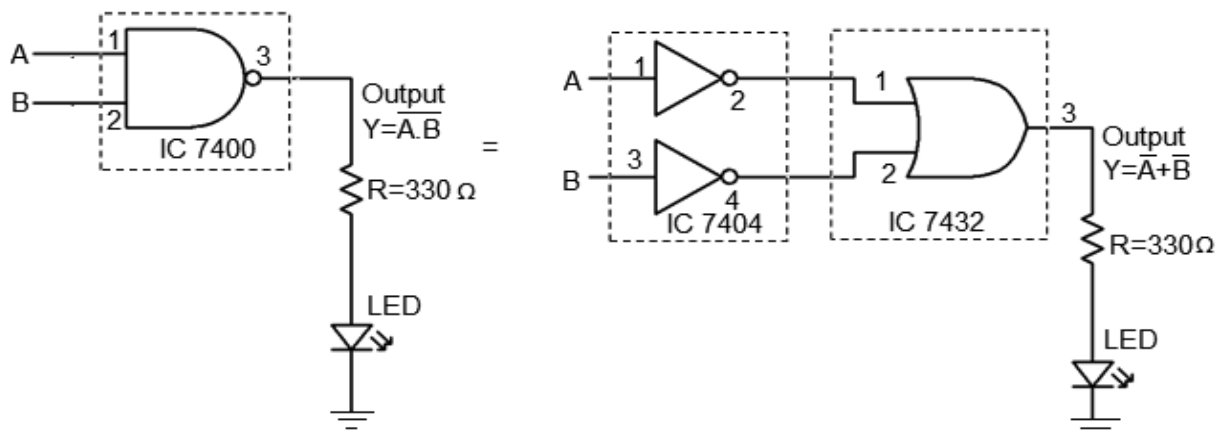

Figure 4.2 De Morgan's second theorem
5. Repeat the process for figure 4.2.